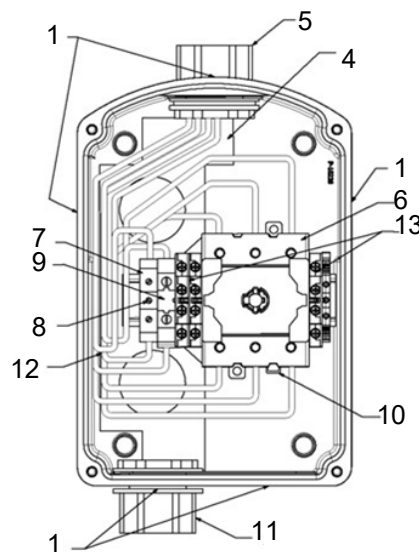
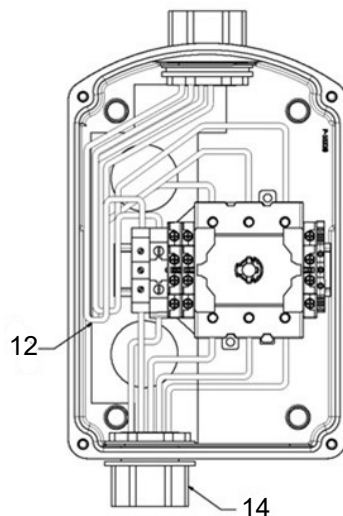

Fig. M-2
Fig. M-3
1. Remove the cover by first removing four (4) cover mounting screws.
3. Top feed is shown in Section C, Fig. M-2. Bottom feed is shown in Section C, Figs. M-3 and M-4.
4. For back feed or for dual conduit entry, see Section C and Figs. M-3 and M-4 for instructions.
## C. DUAL CONDUIT ENTRY AND BACK FEED: See Figs. M-2, M-3 and M-4.
5. Use of user-installed conduit fitting above the switch are not recommended in applications where condensation may be present in conduit. When used in top feed application, drip loops must always be formed as indicated in Figs. M-2 and M-3, #12)